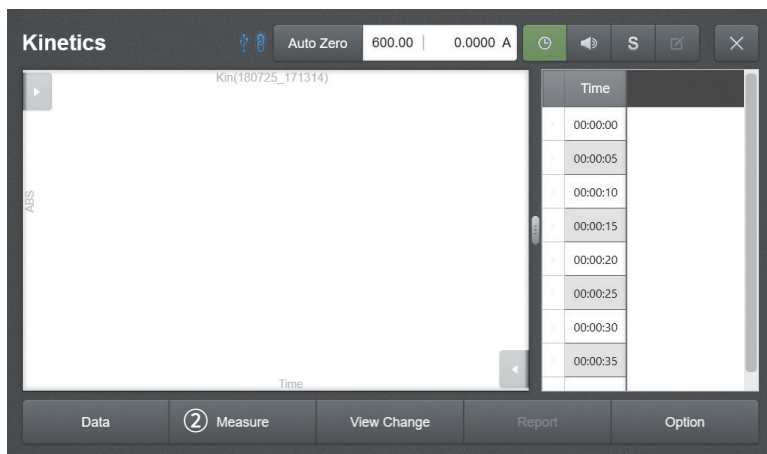

Fig. 6.12
4. [Fig. 6.12] Insert the sample into the pertinent cell holder and press ② **Measure** to take measurements.
5. [Fig. 6.12] If there a sample to add, insert a sample to measure into the pertinent cell holder and press ③ **Measure** to take measurements.
7. Click [Fig. 6.12] **Report** to check or print the measurement data in report form.